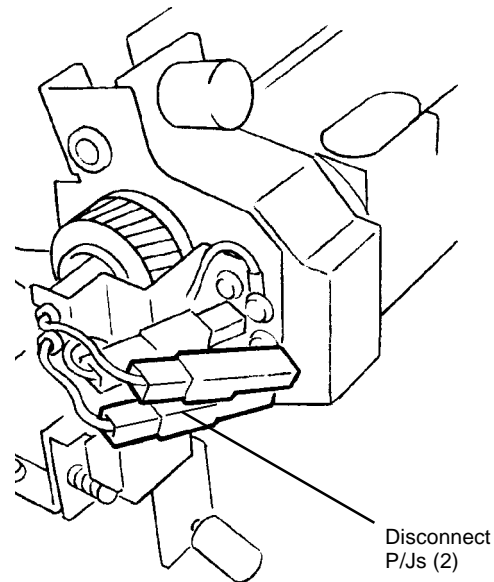

Figure 1 Disconnecting Connectors
- Handle (2) (PL 7.2)
3. Disconnect the connectors's (2) at rear of the Fuser (Figure 1).